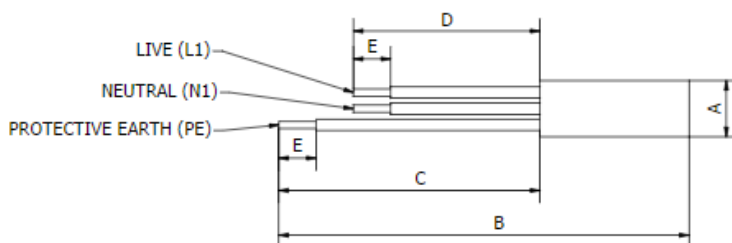

Figure 10: Wire length preparation diagram
- The mains power cable to the Sunamp Controller should be a minimum of 2.5mm², 3 core H05 VV-F sheathed cable, to BS 6500. This cable must be prepared according to Figure 10 (below), where the Green/ Yellow (Protective Earth) cable is 15 mm longer than the Brown (Live) and Blue (Neutral).
- Prepare if necessary and wire the mains power cable in the following terminals (Figure 10):